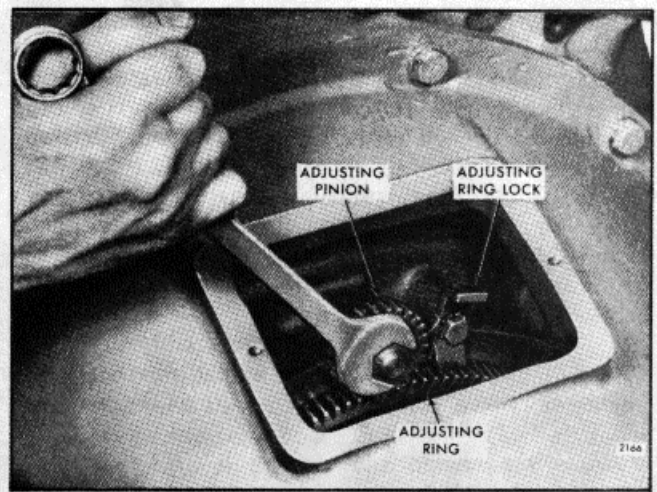

Fig. 12. - Power Take-Off Assembly Showing Method of Adjusting 18" Diameter Clutch
2. Loosen the lock bolt and pull the lock out of mesh with the adjusting ring; then, tighten the lock bolt to hold the lock out of the adjusting ring. While holding the clutch drive shaft to prevent the clutch from turning, turn the adjustment pinion clockwise to tighten the clutch (Fig. 12).